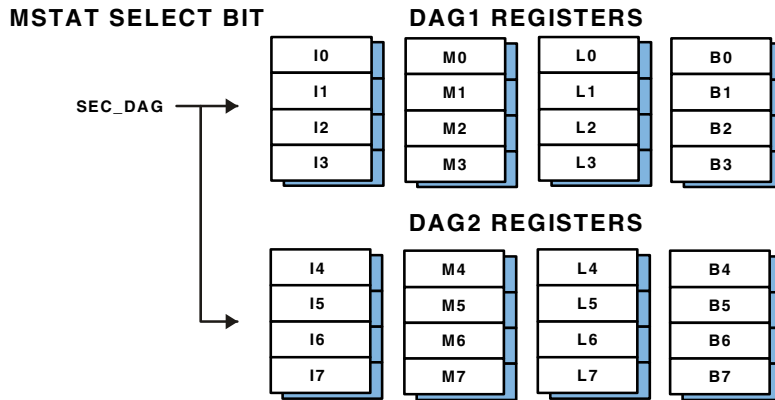

Figure 5-2. Data Address Generator Primary and Alternate Registers
Figure 5-2 on page 5-5 shows the DAG's primary and secondary register sets.
Modify (M) registers can work with any index (I) register in the same DAG (DAG1 or DAG2). For a list of I and M registers and their DAGs, see Figure 5-2 on page 5-5.